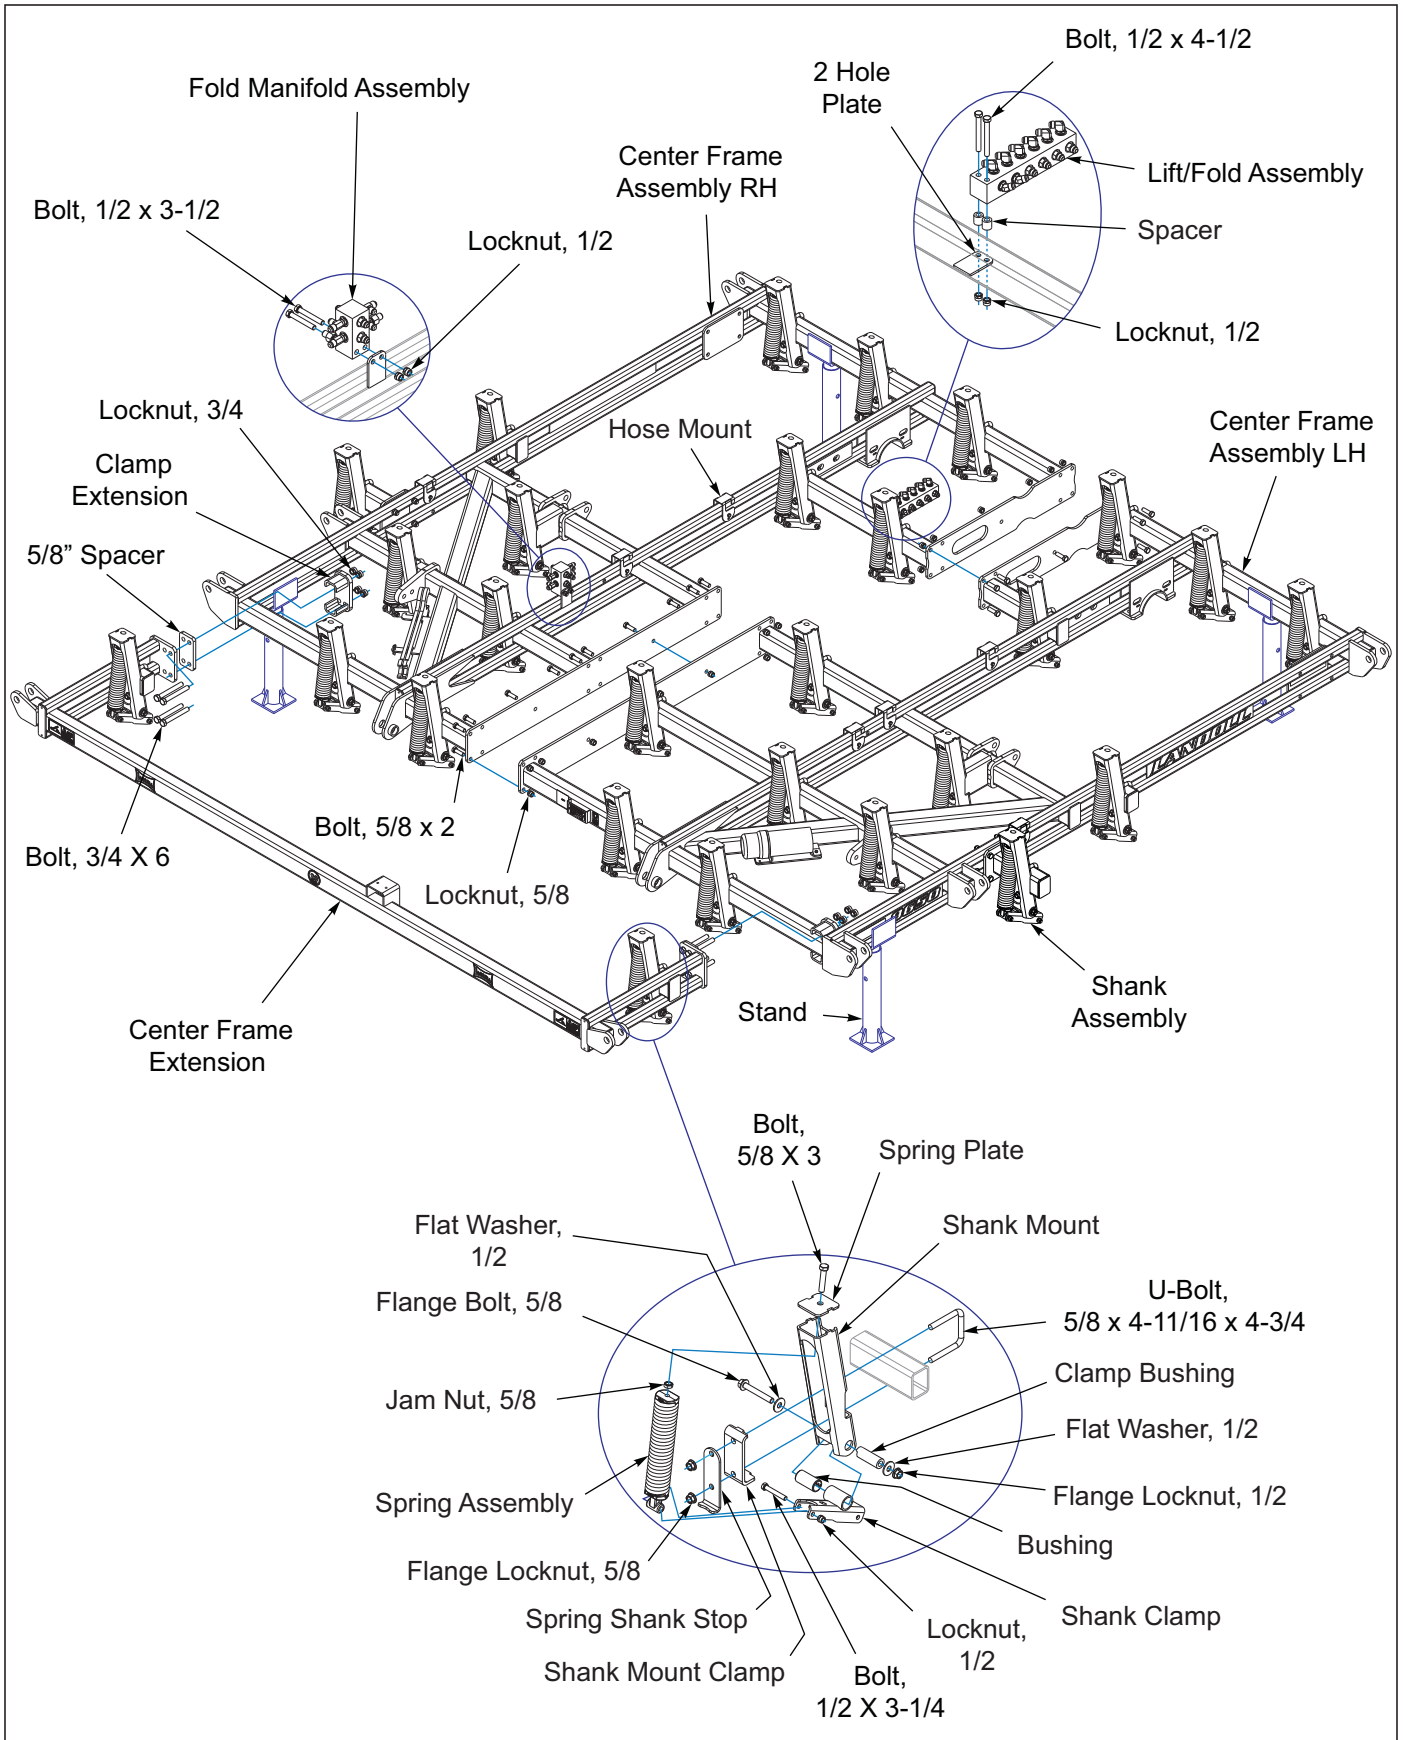

Figure 3-1: Center Frame Assembly
1. Bolt the two center frame halves together using 5/8 x 2 bolts and lock nuts *See Figure 3-1*.
15. Install the 8 port manifold to 2 hole plate toward front of center frame assembly RH with 1/2 x 3-1/2 bolts and 1/2 lock nuts *See Figure 3-1*.
16. Install the cultivator manifold assembly on 2 hole plate on rear of center frame tube using 1/2 x 4 bolt and 1/2 lock nut, models 9650-38'-42' *See Figure 3-1*.
17. Install the lift/fold manifold assembly on 2 hole plate on rear of center frame tube using 1/2 x 3-1/2 bolt and 1/2 lock nut, models 9650-46'-50' *See Figure 3-1*.